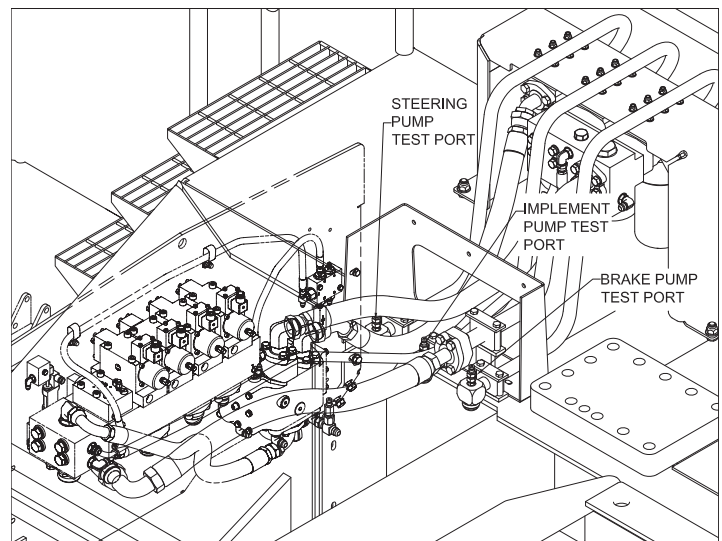

Figure 1: Test Ports
After reading this service bulletin you will be able to set the system stand-by pressure, set the main system relief, set the circuit reliefs, set the steering relief, and set the compensator pressure (system pressure) on all three pumps. Pressures must always be adjusted in this order. For example, you must set, or verify, the stand-by pressure and the main system relief pressure before setting the circuit relief pressure. All pressures are verified or measured at the test ports shown in Figure 1. You must read and understand this Bulletin before attempting to verify or adjust pressures.
line from the accumulator charge valve for the brake system. Cap and plug this line. This will prevent damage to the gauge, should the brake accumulator charge valve cycle. Close the accumulator drain valve. Install a 1,000 psi test gauge at the appropriate test port for the circuit being tested (see Figure 1). Start the engine and operate at low idle.
1. Install a 1,000-psi gauge at the test port for the steering pump (See Figure 1). The stand-by pressure setting is 500 psi.
With the engine off install a 5,000 psi gauge on the implement pump test port (see Figure 1). Turn the implement control valve main relief full in.
Start the engine and run it at low idle and activate the bucket roll back function. Adjust the implement pump pressure compensator to 2,600 psi as indicated on the gauge installed at the implement pump test port. See Figures 1, 3 and 5.